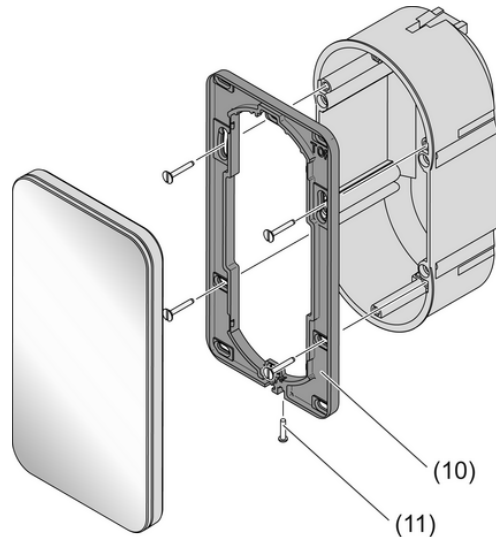

Figure 3
- Align the mounting frame (10) and screw it to the appliance box or the wall (Figure 3). Observe marking **TOP** = TOP. Use the enclosed set of screws.
- Connect the KNX bus voltage to the terminal (6).
- Optional: Connect the external temperature sensor to the terminal (5).
- Tighten the retaining screw (11) on the bottom of the mounting frame. Use a Pozi-Drive screwdriver, size 0.